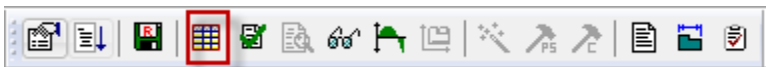
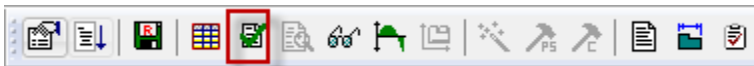
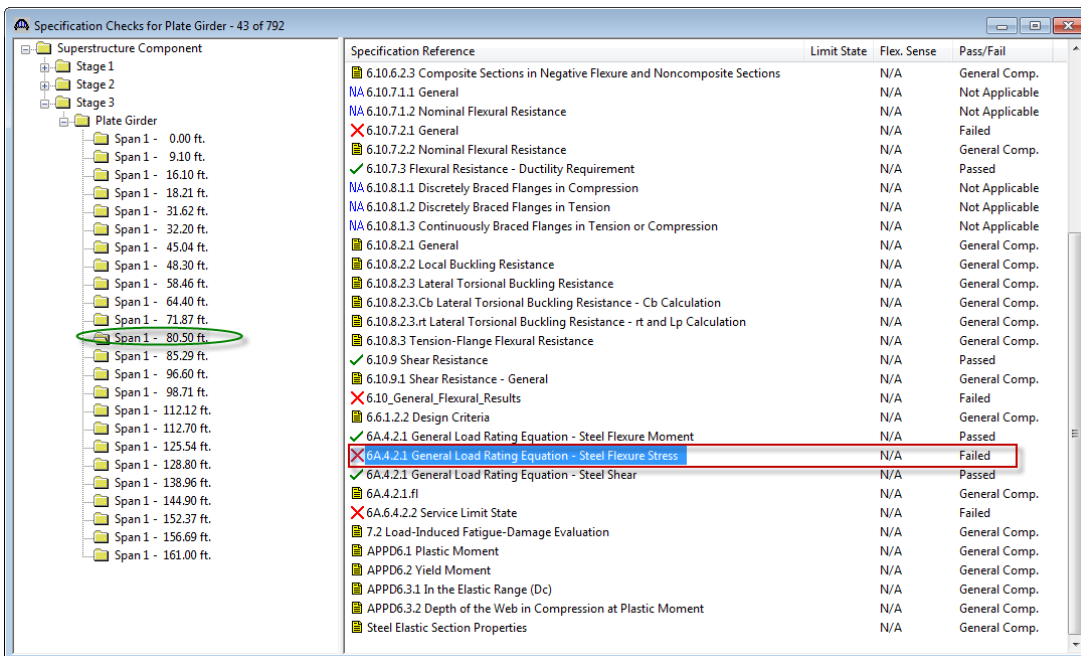

Fig 9. View Analysis Report Button
Fig 11. View Spec Check Button
Fig 12. Spec Check Summary Window
Once “Analyze” button is clicked, “Analysis Progress” window (Fig. 8) pops up. After analysis is completed click on “OK” button to close Analysis Progress window. Select the member alternative “Plate Girder (E)(C)” for G2. Click on “View Analysis Report” button (Fig. 9) to open Analysis Results window.
Now go to toolbar, select and click on “View Spec Check” button (Fig 11). Spec Check Summary window will pop up. On Spec Check Summary window (Fig 12) expand “Stage 3” on left of the window. Select and click on “Span 1 – 80.50ft” (midpoint of the span1). This displays a list of articles checked for this location. Select and open article “6A.4.2.1 General Load Rating Equation – Steel Flexure Stress” by double clicking on it.
After analysis is completed click on “OK” button to close Analysis Progress Window (Fig. 9). Now open Spec Check Summary window (Fig 13) by clicking on the View Spec check button (Fig 12).